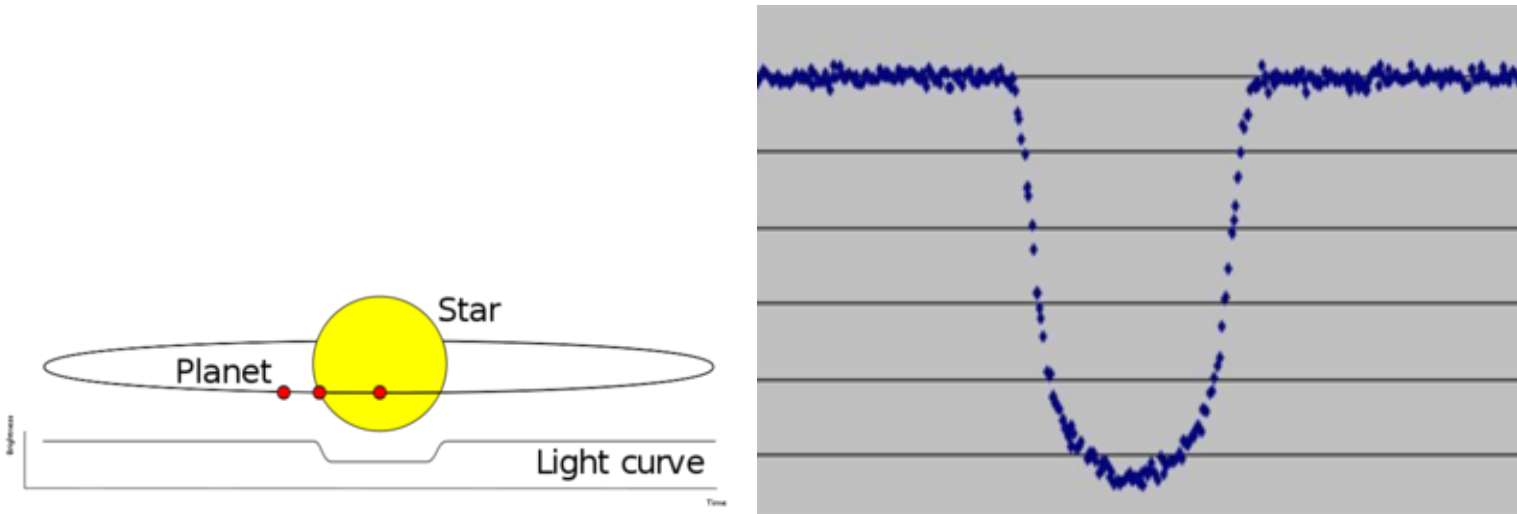

Figure 2: **Left: Predicting how planetary occultation affects a star’s brightness is simple geometry. Finding it in real data is the problem (Right).**
Further to item 4 above, see Fig. 2 and the references.